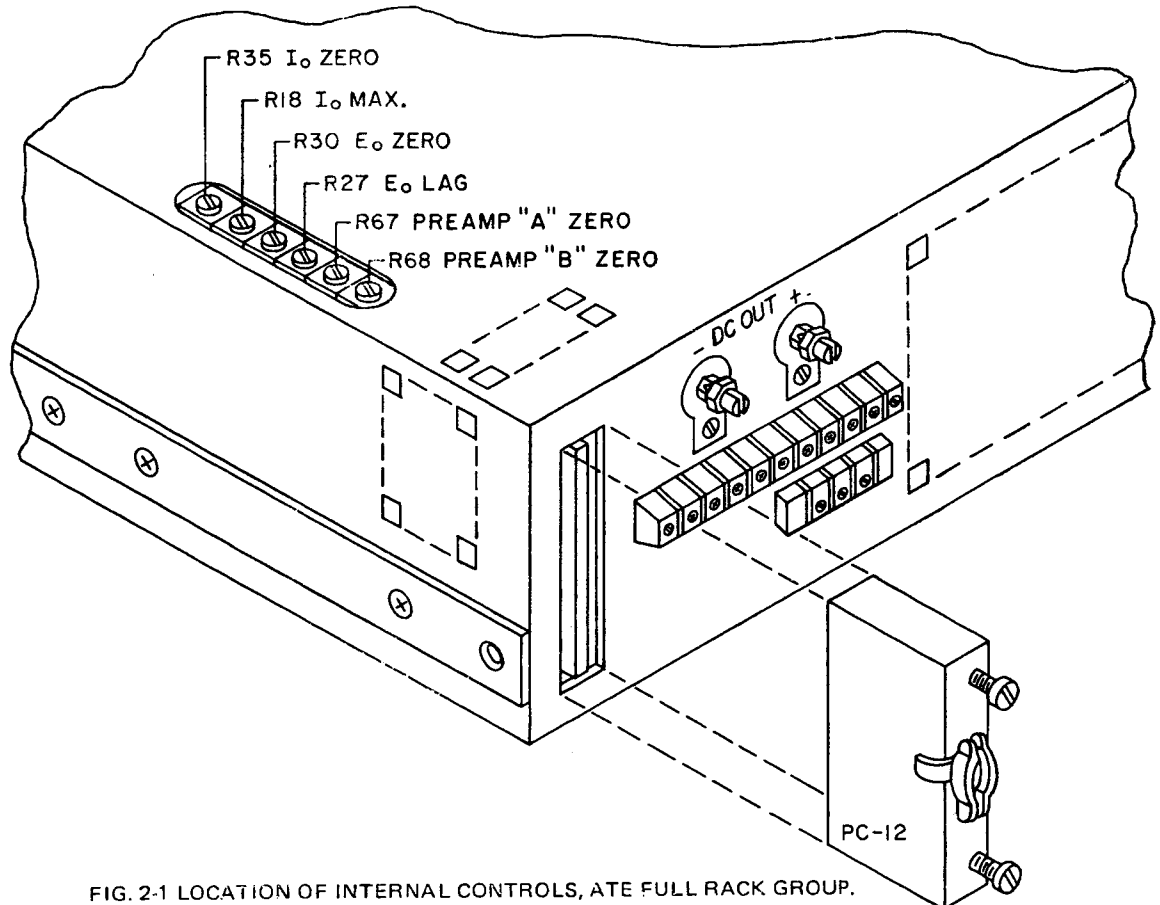

FIG. 2-1 LOCATION OF INTERNAL CONTROLS, ATE FULL RACK GROUP.
- c) INTERNAL CONTROLS: Refer to FIG. 2-1 and Table 2-1.
- 2-19 LAG NETWORK ADJUSTMENT. The ATE power supply operating in the "fast" mode, is dynamically stabilized by means of an internal lag network ( $E_o$  LAG, R27, see FIG. 2-1 for location). This control should be adjusted, for each application, by monitoring the load with an oscilloscope and turning the LAG control for best output response and maximum dynamic stability under all operating conditions.